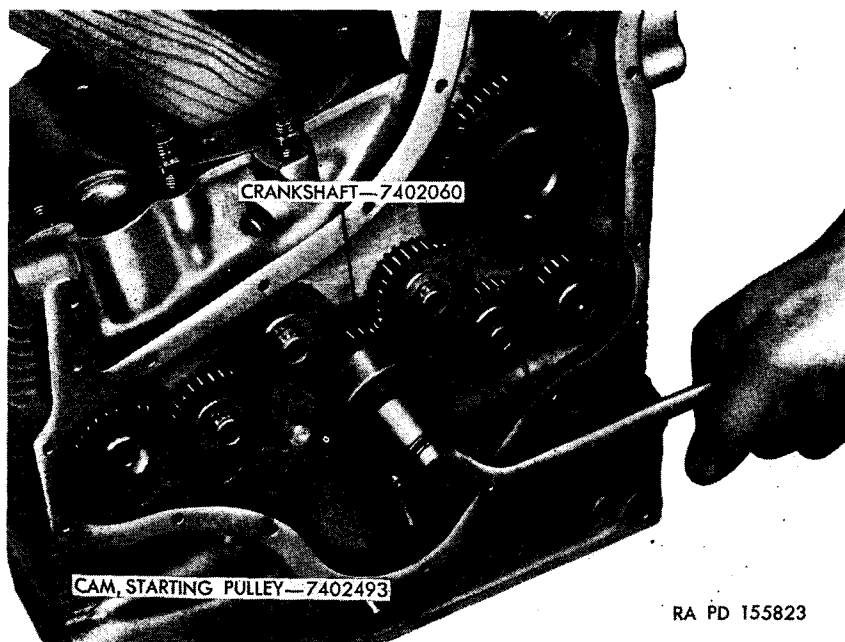

Figure 103. Installing starting pulley cam on front end of crankshaft.
b. Slide a $1\frac{1}{8}$ ID x $1\frac{1}{4}$ OD x $1\frac{1}{2}$ long sleeve over end of crankshaft and against cam. Place plain washer against sleeve, thread $\frac{3}{8}$ -24 x $1\frac{1}{2}$ bolt into tapped end of crankshaft; then with block of wood inserted through cylinder port to prevent crankshaft from turning, draw cam starting pulley tight against crankshaft gear (fig. 103).